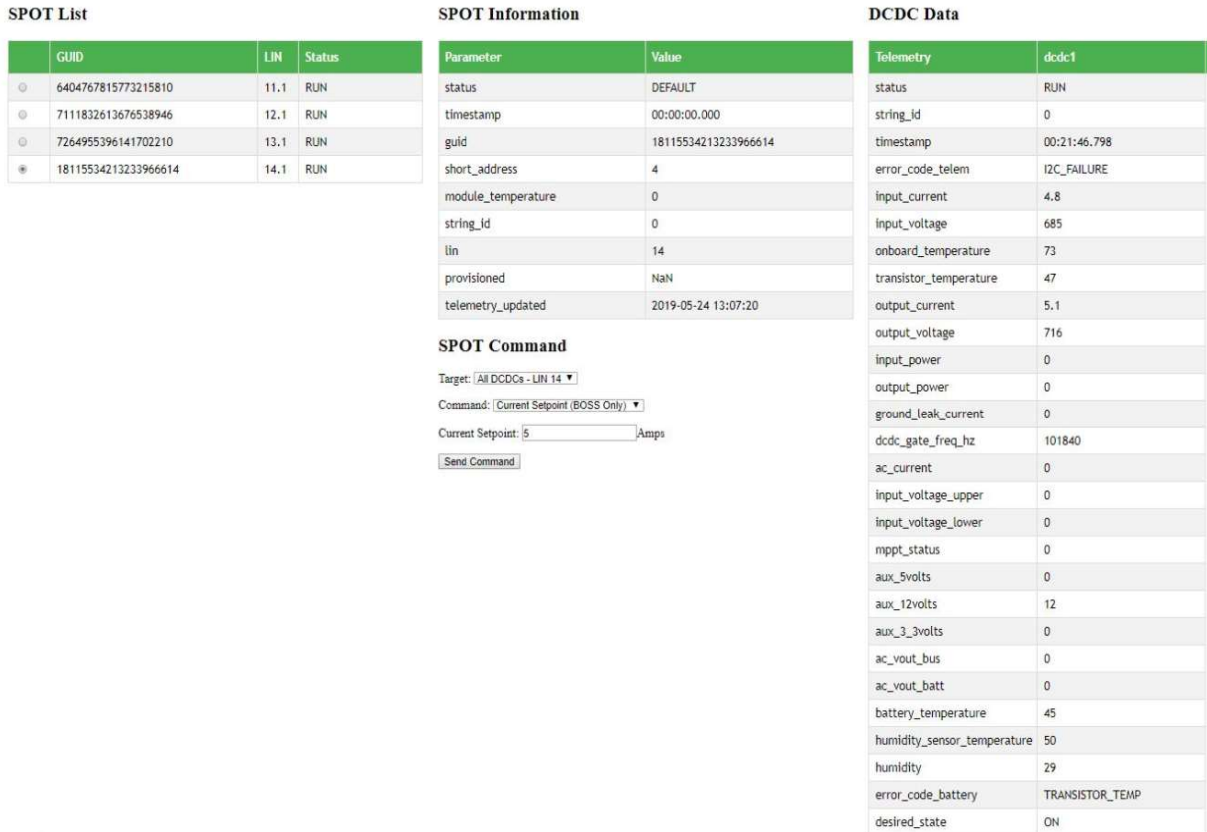

Figure 36: HUB display of the 4 DCDC's
See the diagram in Figure 36 for a basic setup and follow the instructions below for the test. Currently Alencon does not have the setup yet to perform battery charge-discharge test.
- Connect the batteries to the both sides of the BOSS shown in Figure 36.